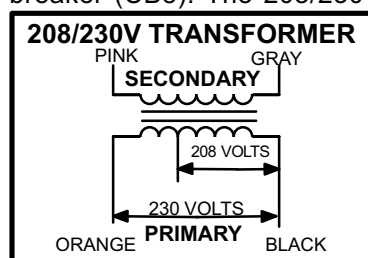

FIGURE 3
use two primary voltage taps as shown in figure 3, while the 460 (G) voltage transformer use a single primary voltage tap.